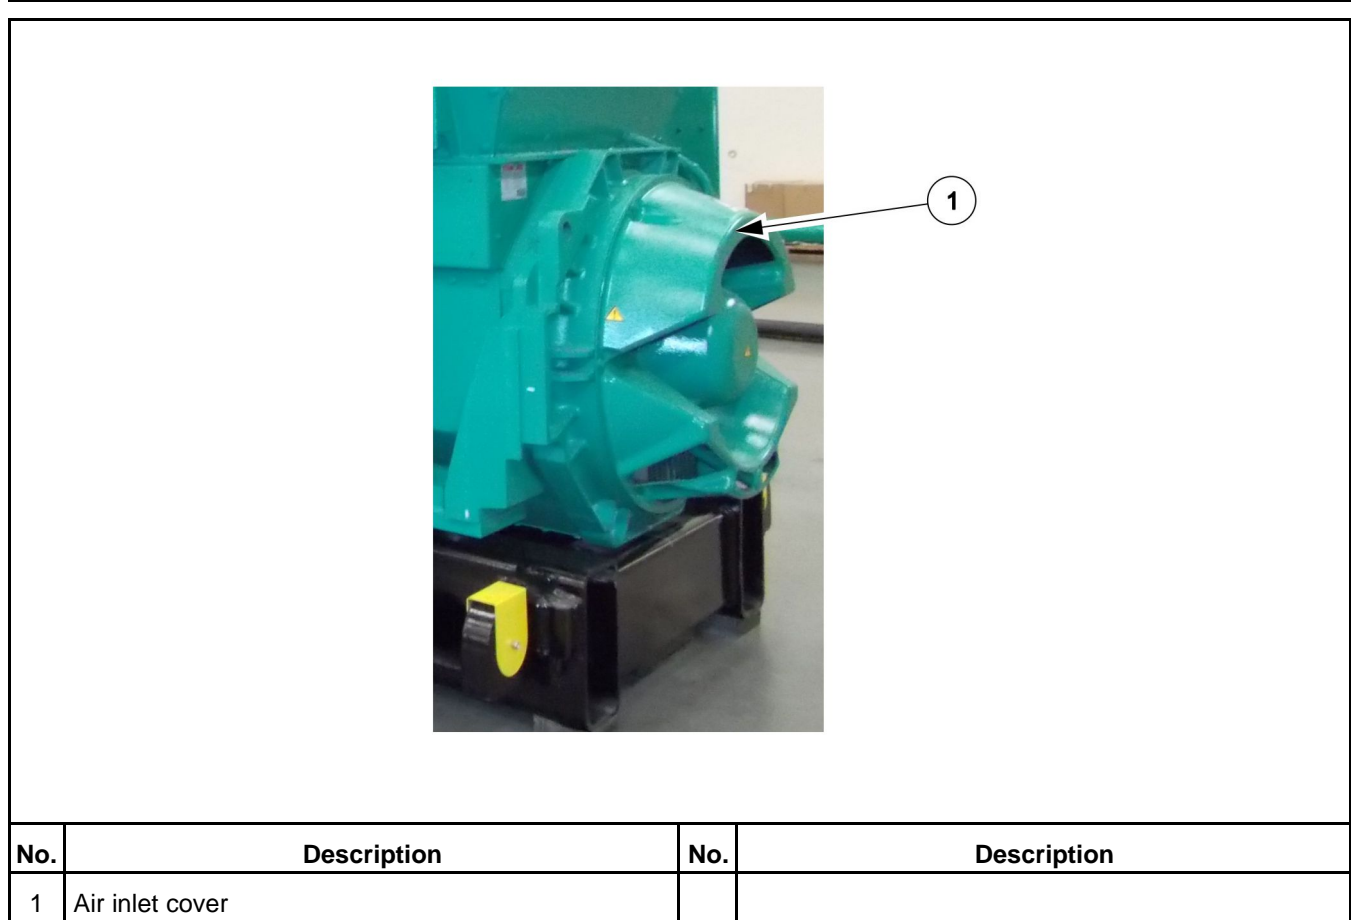

FIGURE 54. ACCESS COVER AND AIR INLET COVER
7. Attach the air inlet cover (2, Figure 54) and air filter components (if fitted).